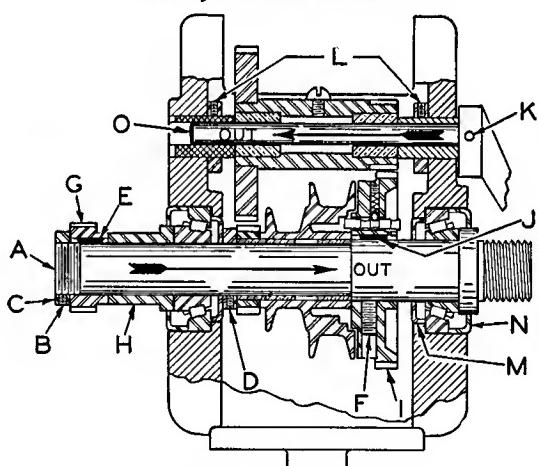

Fig. 5 Cross Section of Miller Head.
Run the miller between thirty minutes and one hour to warm up the spindle (a temperature rise of 50 degrees Fahr. increases the length of the spindle about .002 inch between bearings). Then loosen the set screw (B) on the thrust nut (C), at the extreme left end of the spindle (A), see Figure 5, and turn it up to a point where no play can be detected in the spindle. Advance this thrust nut $\frac{1}{32}$ turn (equal to one tooth of the spindle gear) past that point in order to provide the correct preload. Tighten the set screw. It is necessary to remove change gear guard on rear of miller to get at the adjusting collar. This is easily accomplished after loosening the hex screws.